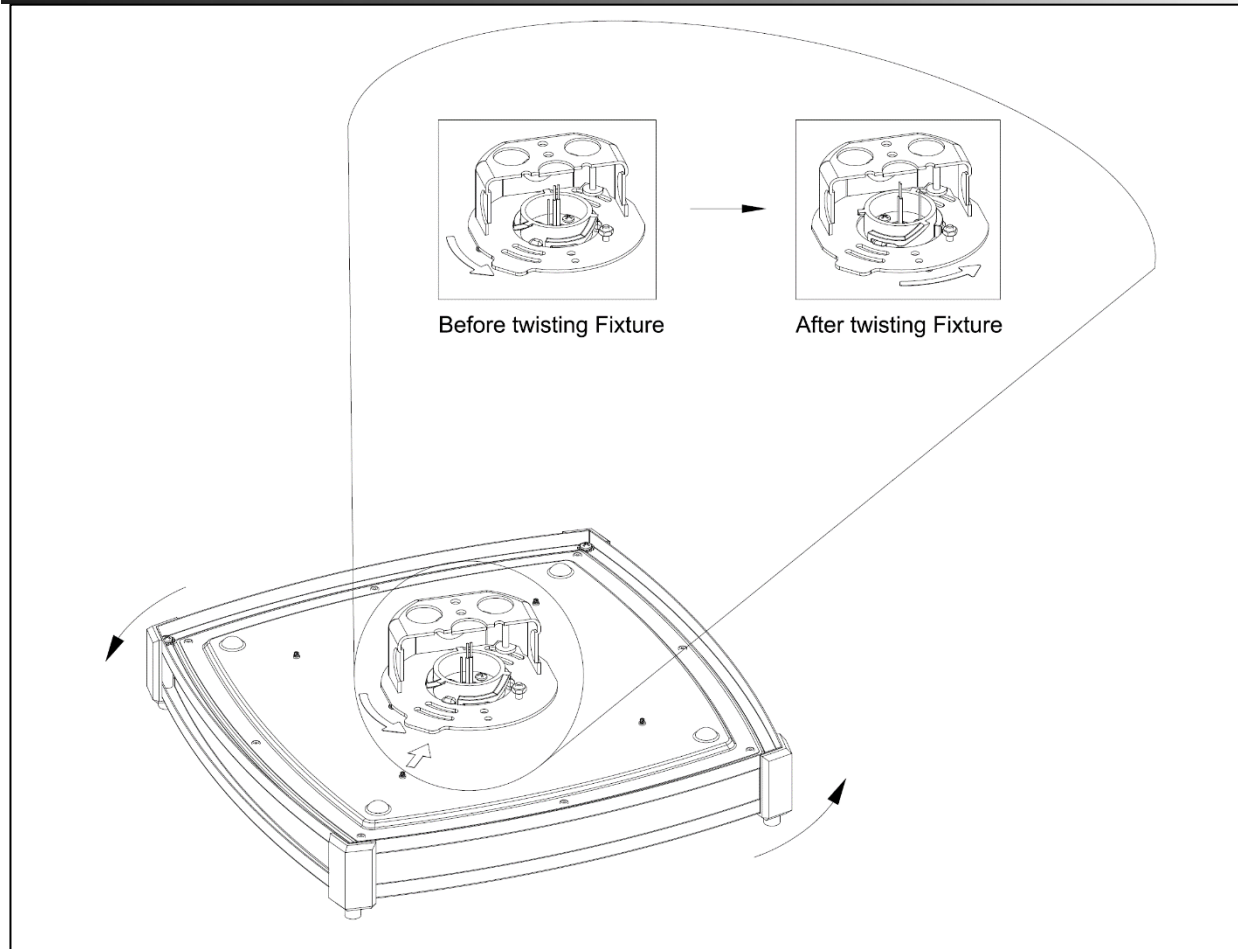

Figure 8
10. Secure the Fixture Assembly to the Mounting Bracket **by twisting the fixture CLOCKWISE while gently pushing it upward into the junction box**, shown in *Figure 8*. You should feel a slight “bump” to confirm that the fixture is locked into place. The fixture must be rotated clockwise 90 degrees from Arrow alignment to fully installation. If aligning with a Square Saturn, the installer will have a little extra tolerance to adjust the alignment of the fixture after feeling the “bump”. If Junction Box protrudes from the ceiling, there may be gap between fixture and ceiling.